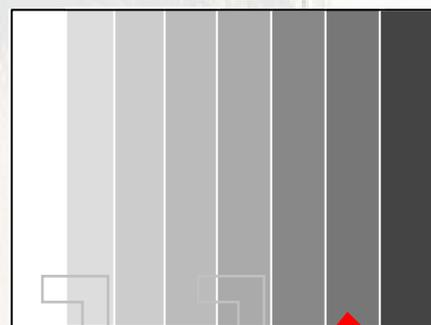

Fig.4-2 PAL stair-step
2. Use the [VOLUME +/-] key of the jig remote control and adjust until the second step from the right just starts to appear. (Fig. 4-2)